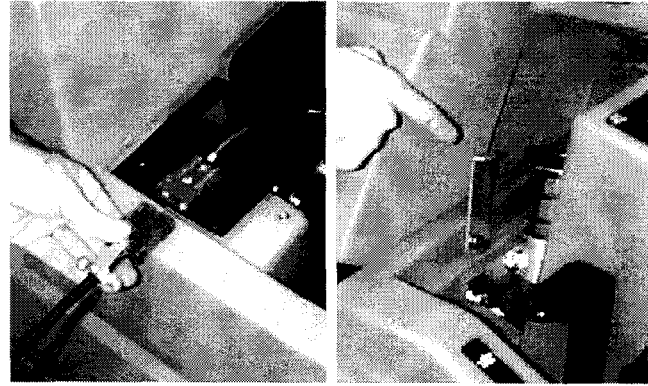

FIG. 25
- Plug charger DC output connector to battery connector located near battery compartment. Flip up tank support stand and rest tank on stand (Figure 25).